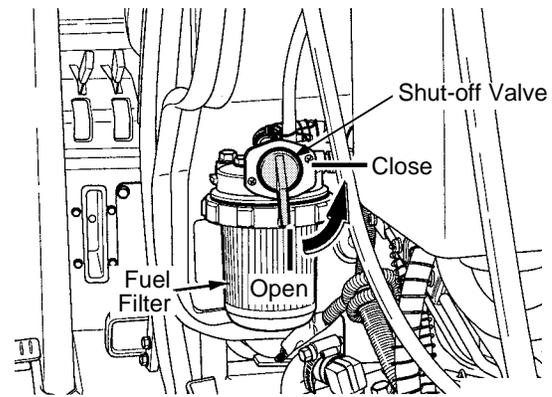

Figure 54
- Close the shut-off valve on the fuel filter. See Figure 54.